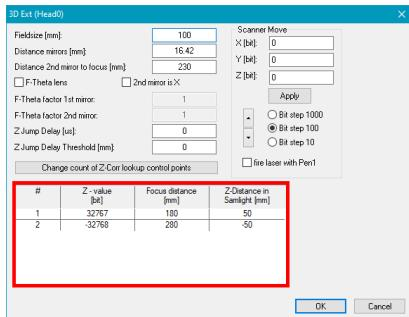

Figure 80: Z-Correction Settings
The lookup table is situated in Settings → System → Optic → Advanced → Correction, Settings → Z-Correction, Settings (see figure 80).
- Set up a temporary linear Z lookup table. Make sure, the value of **Distance 2nd mirror to focus** is within the lookup table. In the example given in figure 80 and below, the lookup table is set symmetrically around the **Distance 2nd mirror to focus**.